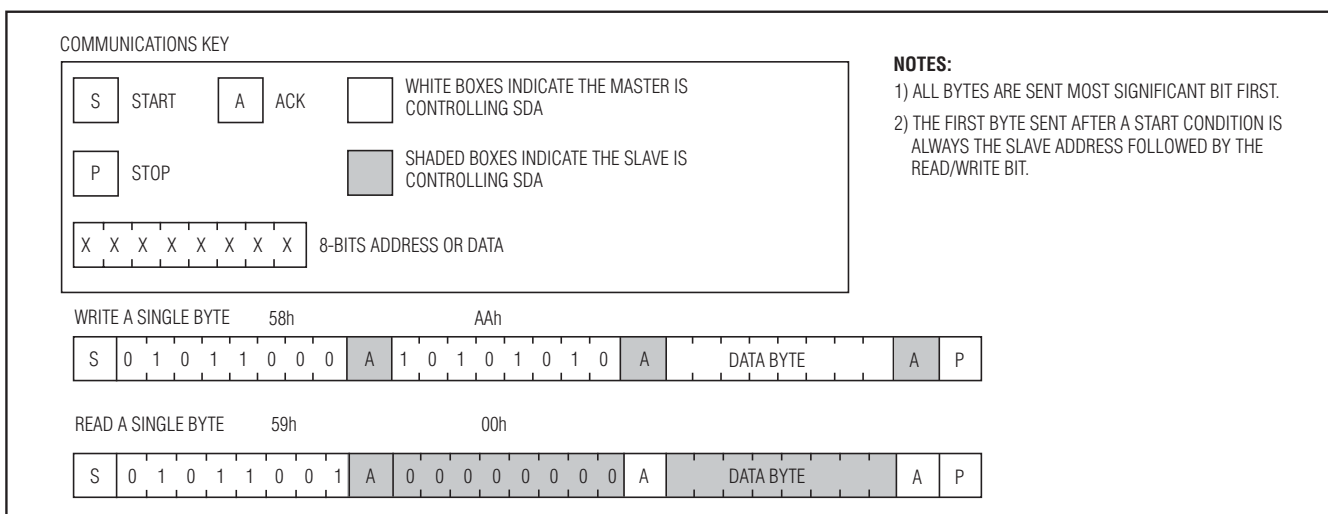

Figure 2. 2-Wire Communication Examples
The DS4302 communicates through a 2-wire (SMBus-compatible) digital interface and has a 2-wire address of 58h. Write and read operations are used to access the DAC and output settings. Each operation begins with a 2-wire START condition, consists of three bytes, and ends with a 2-wire STOP condition (see Figure 2). Using the write operation, the 2-wire master can program the
**Writing to a Slave:** The master must generate a START condition, write the slave address ( $R/\overline{W} = 0$ ), write the memory address, write the byte of data, and generate a STOP condition. Remember the master must read the slave's acknowledgement during all byte-write operations. See Figure 2 for the write command example.
**Reading from a Slave:** To read from the slave, the master generates a START condition, writes the slave address with  $R/\overline{W} = 1$ , receives an ACK from the slave, reads a memory address of 00h from the slave, sends an ACK to the slave, reads the data byte, then sends an ACK to indicate the end of the transfer, and generates a STOP condition. See Figure 2 for the read command example.